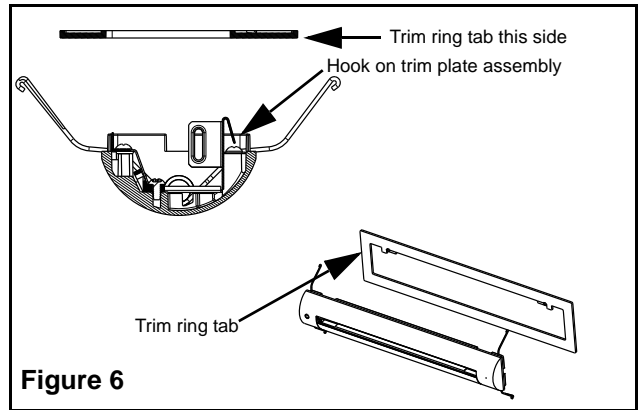

Figure 6
3. Recessed installation (figure 6). Attach the flat trim ring to the trim plate. Orient the trim ring and snap it with the two tabs behind the hooks of the side brackets.